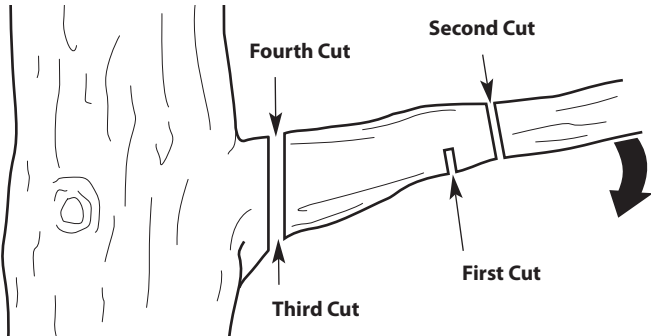

Fig. 9
2. Make the first cut approximately 6 inches (15 cm) from the tree trunk. Cut upward, from the underside of the limb. Use the top of the guide bar to make this cut. Cut a third of the way through the diameter of the limb (Fig. 9).
3. Make the second cut 2 - 4 inches (5 - 10 cm) farther out on the limb. Cut downward, from the top of the limb. Use the bottom of the guide bar to make this cut. Cut completely through the limb (Fig. 9).
4. Make the third cut as close to the tree trunk as possible. Cut upward, from the underside of the limb stub. Use the top of the guide bar to make this cut. Cut a third of the way through the diameter of the limb (Fig. 9).
5. Make the fourth cut directly above the third cut. Cut downward, from the top of the limb stub. Use the bottom of the guide bar to make this cut. Cut completely through the limb stub to meet the third cut (Fig. 9). This will remove the limb stub.